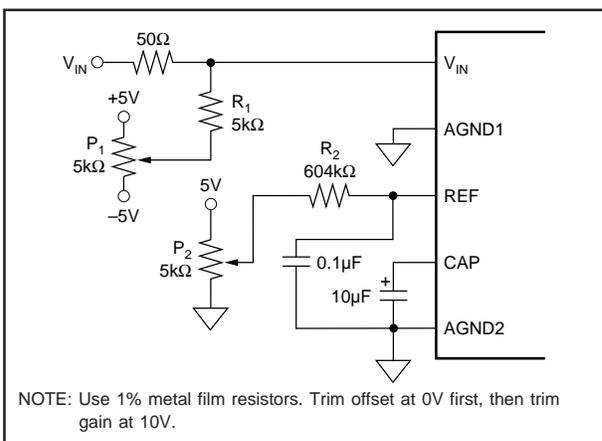
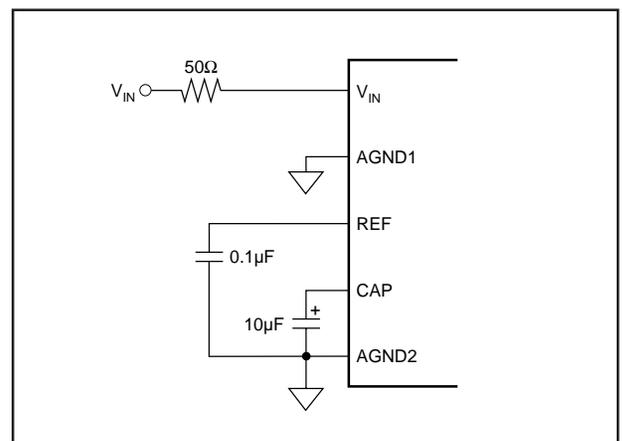
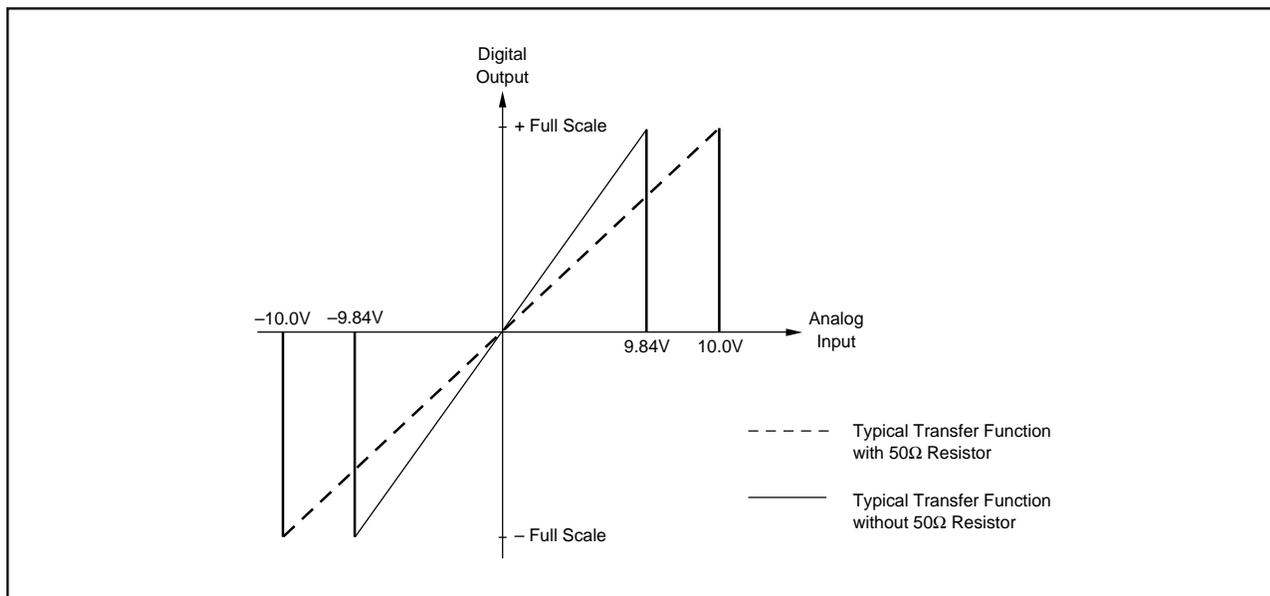

FIGURE 4a. Circuit Diagram With External Hardware Trim.
FIGURE 4b. Circuit Diagram Without External Hardware Trim.
FIGURE 5. Comparison of the ADS7810 Transfer Function With and Without the  $50\Omega$  Series Resistor on  $V_{IN}$ .
T = +25°C,  $f_S = 800\text{kHz}$ ,  $+V_{\text{DIG}} = +V_{\text{ANA}} = +5\text{V}$ ,  $-V_{\text{ANA}} = -5\text{V}$ , using internal reference and the input  $50\Omega$  resistors as shown in Figure 4b, unless otherwise specified.
T = +25°C, fS = 800kHz, +VDIG = +VANA = +5V, -VANA = -5V, using internal reference and the 50Ω input resistors as shown in Figure 4b, unless otherwise specified.
The ADS7810 offers a standard  $\pm 10V$  input range. Figures 4a and 4b show the necessary circuit connections for the ADS7810 with and without external trim. Offset and full scale error(1) specifications are tested and guaranteed with the  $50\Omega$  resistor shown in Figure 4b. This external resistor makes it possible to trim the offset  $\pm 50mV$  using a trim pot or trim DAC. This resistor may be left out if the offset and gain errors will be corrected in software or if they are negligible in regards to the particular application. See the **Calibration** section of the data sheet for details.
To calibrate the offset and gain of the ADS7810, install the proper resistors and potentiometers as shown in Figure 4a. The calibration range is  $\pm 50\text{mV}$  for bipolar zero and  $\pm 120\text{mV}$  for full scale.
See Figure 4b for circuit connections. Note that the actual voltage dropped across the  $50\Omega$  resistor is nearly two orders of magnitude lower than the voltage dropped across the internal resistor divider network. This should be taken into consideration when choosing the accuracy and drift specifications of the external resistors. In most applications, 1% metal-film resistors will be sufficient.
The external  $50\Omega$  resistor shown in Figure 4b may not be necessary in some applications. This resistor provides trim capability for the offset and compensates for a slight gain adjustment internal to the ADS7810. Not using the  $50\Omega$  resistor will cause a small gain error but will have no effect on the inherent offset error. Figure 5 shows typical transfer function characteristics with and without the  $50\Omega$  resistor in the circuit.